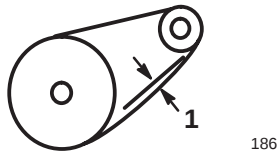

Figure 35
7. Check the deflection of the chain by lifting up on it with moderate pressure at the mid span. There should be a 1/8 to 3/8 in. (3 to 10 mm) deflection (Fig. 35).